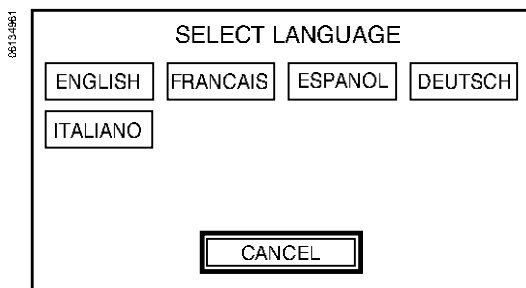

Figure 9: Select Language Screen
3. Select appropriate language setting from Select Language screen (Fig. 9). Display screen will return to Configure Test Kit Options screen (Fig. 11).